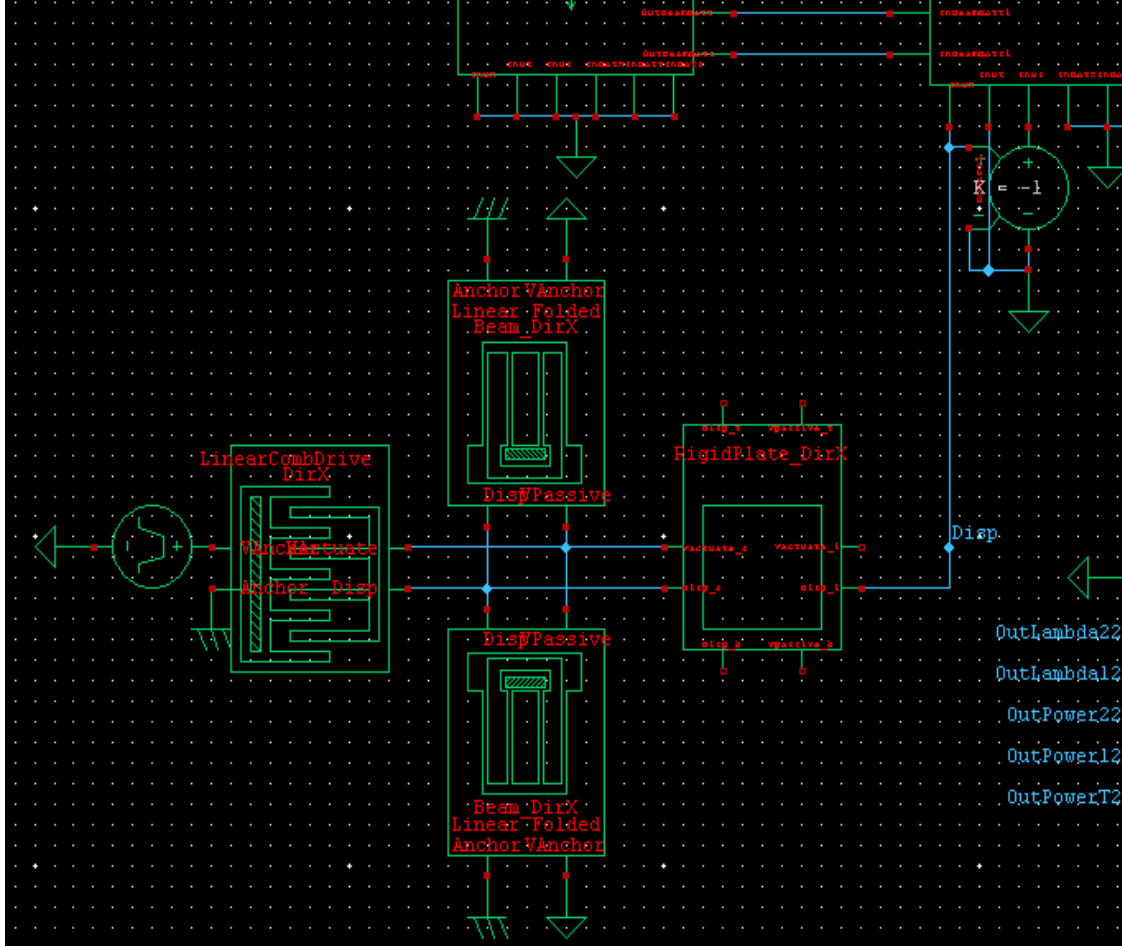

Figure 39: Connecting mechanical elements
- Connect the mechanical parts as shown in (Figure 39).